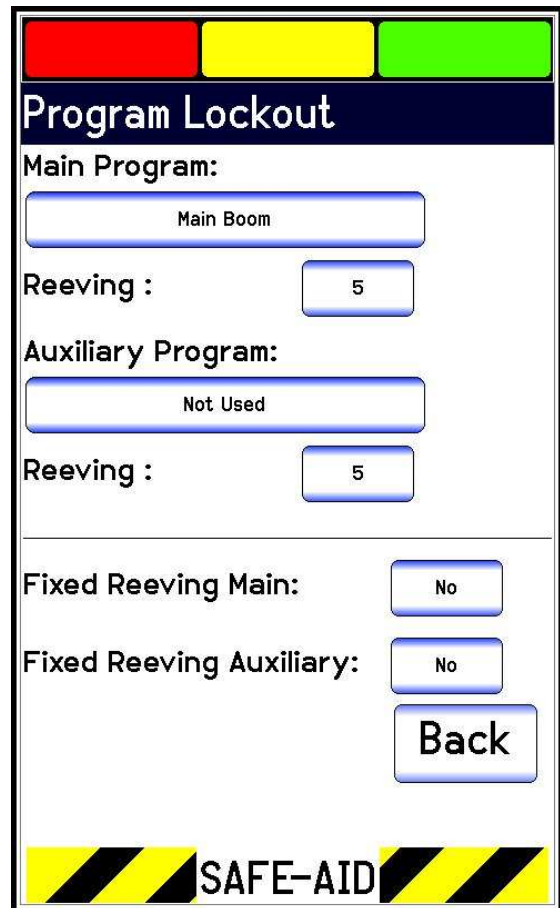

Figure 27
5.  Select **Yes** - the complete list of programs for the relative winch will be displayed. Select the required program followed by the Enter button e.g. MAIN BOOM (figure 27) Repeat this for the second winch if required.